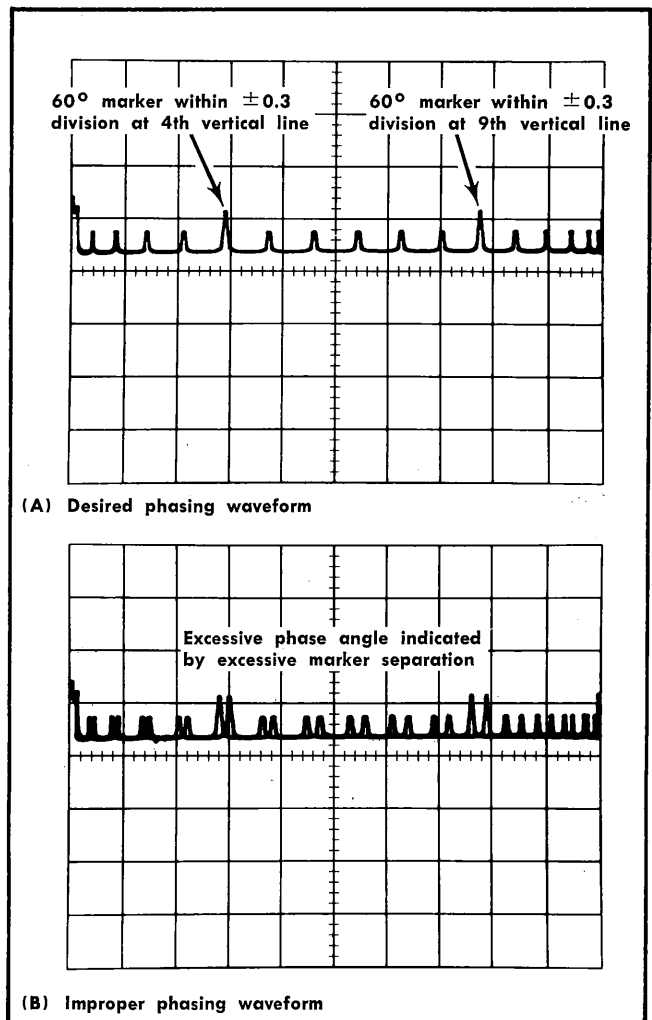

Fig. 5-34. Signal phasing waveforms for step 6.
c. CHECK—Marker phasing with respect to the sine wave deflected baseline. Markers which are generated during left-to-right trace movement should be within ± 0.2 division of being superimposed on those which are generated during right-to-left trace movement. See Fig. 5-34. If linearity and phasing are both correct, 60° markers should exist within ± 0.3 division of the fourth and ninth vertical graticule lines from the left, as shown in Fig. 5-34(A). A waveform indicating improper phasing is provided in Fig. 5-34(B) for comparison.
d. (Calibration Procedure only.) ADJUST—Marker phasing. Loosen the photo-transistor block base plate screws and move the block either left or right as necessary to superimpose the left-to-right and right-to-left markers. Keep the front of the block parallel to and at least $\frac{1}{32}$ inch from the generator disc. After the adjustment has been completed, the 60° markers should be within ± 0.3 division of the fourth and ninth vertical graticule lines from the left, as illustrated in Fig. 5-34(A).
e. Insert one end of a 2 k Ω 5% resistor (item 25) into terminal E of the 2B67 INPUT connector.